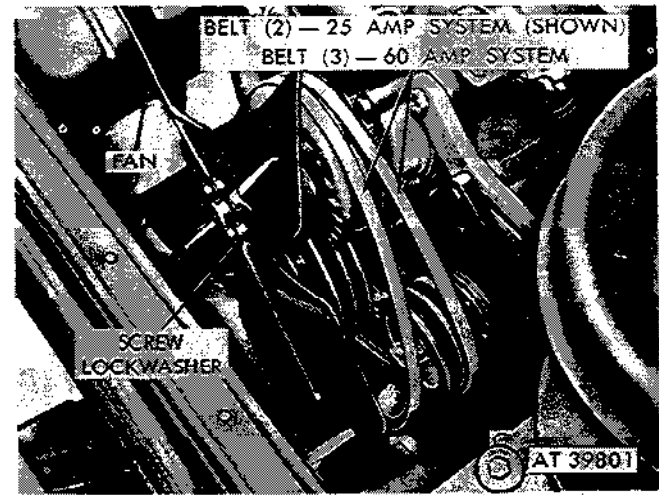

Figure 2-140. Remove drive belts and fan.
(2) Remove drive belts (2 for 25 amp system, 3 for 60 amp system) (fig. 2-140).
(3) Remove four screws and lockwashers securing fan and fan pulley to water pump shaft flange. Remove fan (fig. 2-140).